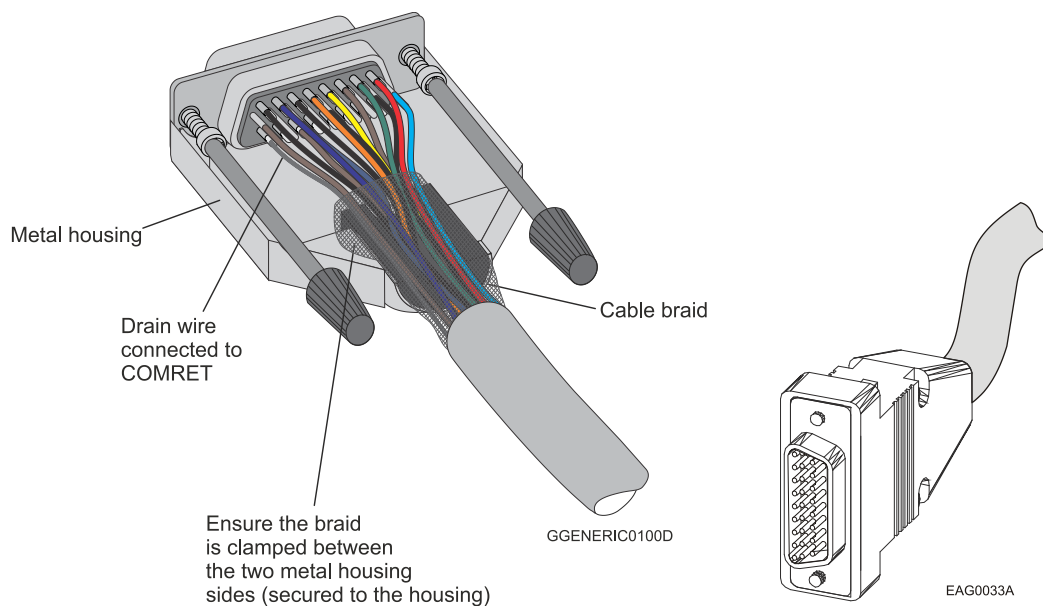

Figure 4: D-Type Cable Assemblies
5. Use only a D-Sub connector with a **metal housing** (Figure 4).
6. Make sure the braid shield is in tight contact with the metal housing of the D-type connector (Figure 4).